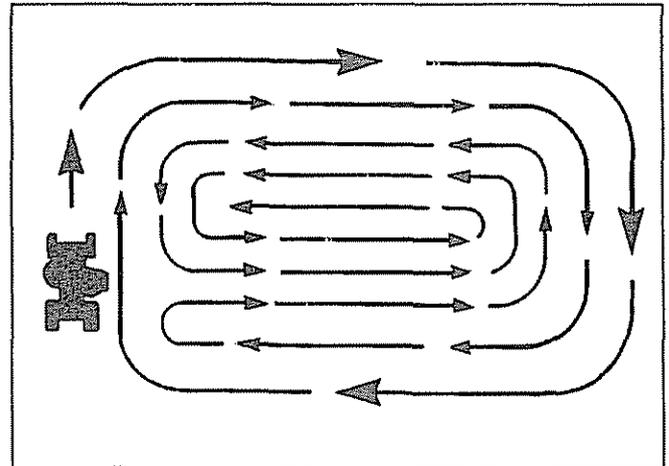

FIG. 10
- When mowing large areas, start in a clockwise direction so clippings will be discharged away from shrubs, fences, driveways, etc. After one or two rounds, mow in counterclockwise direction until finished (see Fig 10).